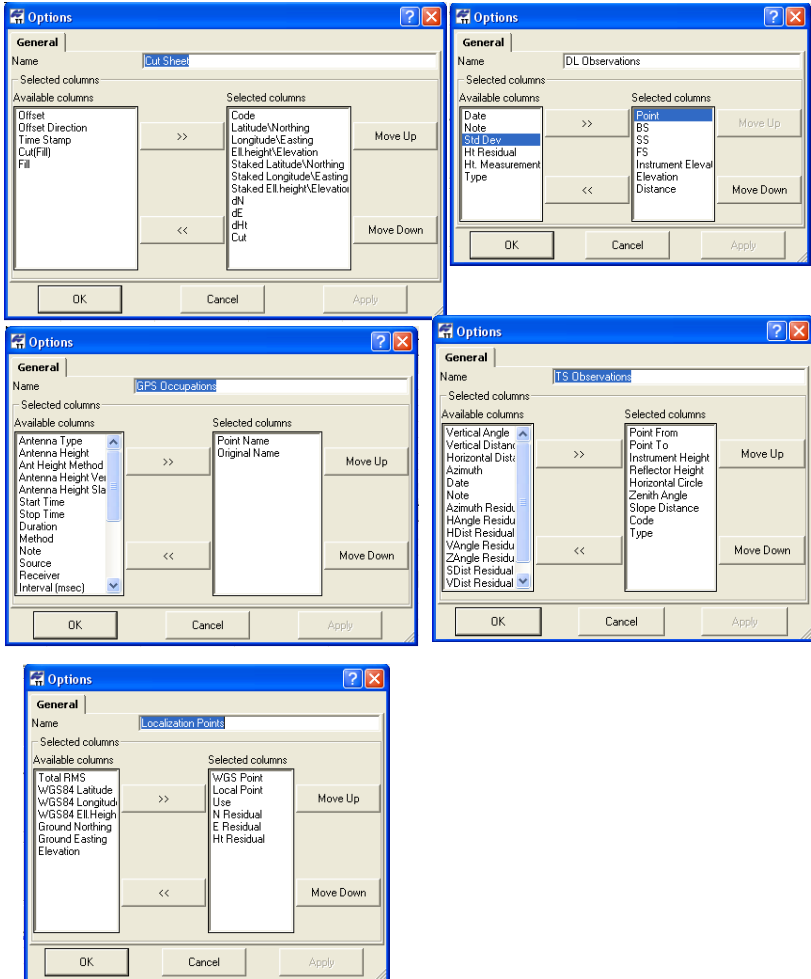

Figure 7-19. Edit Name and Select Desired Parameters for Report
- Cut Sheet Report, GPS Occupations Report, TS Observations Report, DL Observation Report and Localization Points Report – edit the name, select parameters to include or exclude using the move right/move left buttons, order the display of parameters using the Move Up/Move Down buttons, and click **OK** (Figure 7-19).